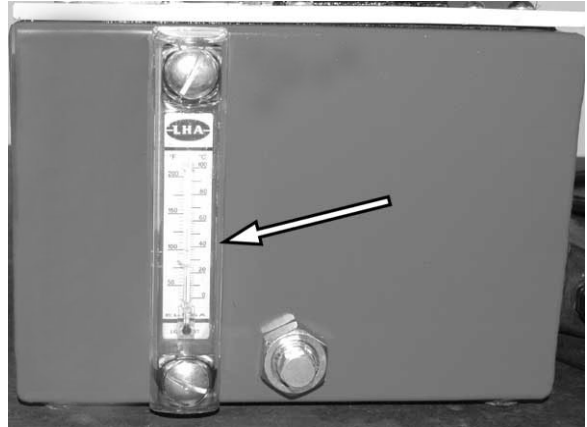

Figure 54.
2. See Figure 54. Remove the two screws and the thermometer.